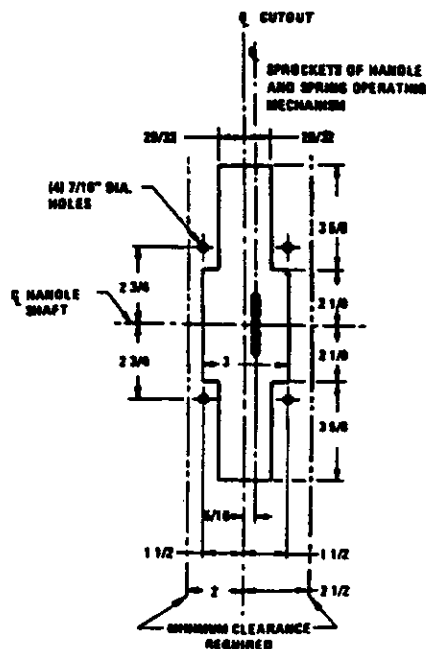

Fig. 12
- c. If not already provided, cut opening and drill or punch four 7/16" diameter holes at right front of enclosure per details in Fig. 12. (This information may also be found on chain drive operating mechanism Dwg. 316-557).